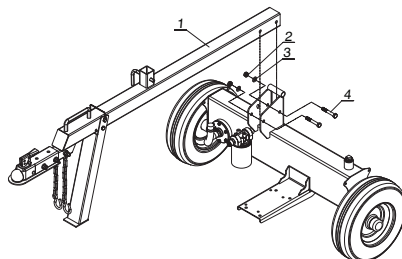

Figure 4
1. Attach the tow bar (#1) to the hydraulic tank and secure using two hex bolts M12x100 (#4), flat washer Ø12 (#3) and nylon lock nut M12 (#2). (See fig. 4)